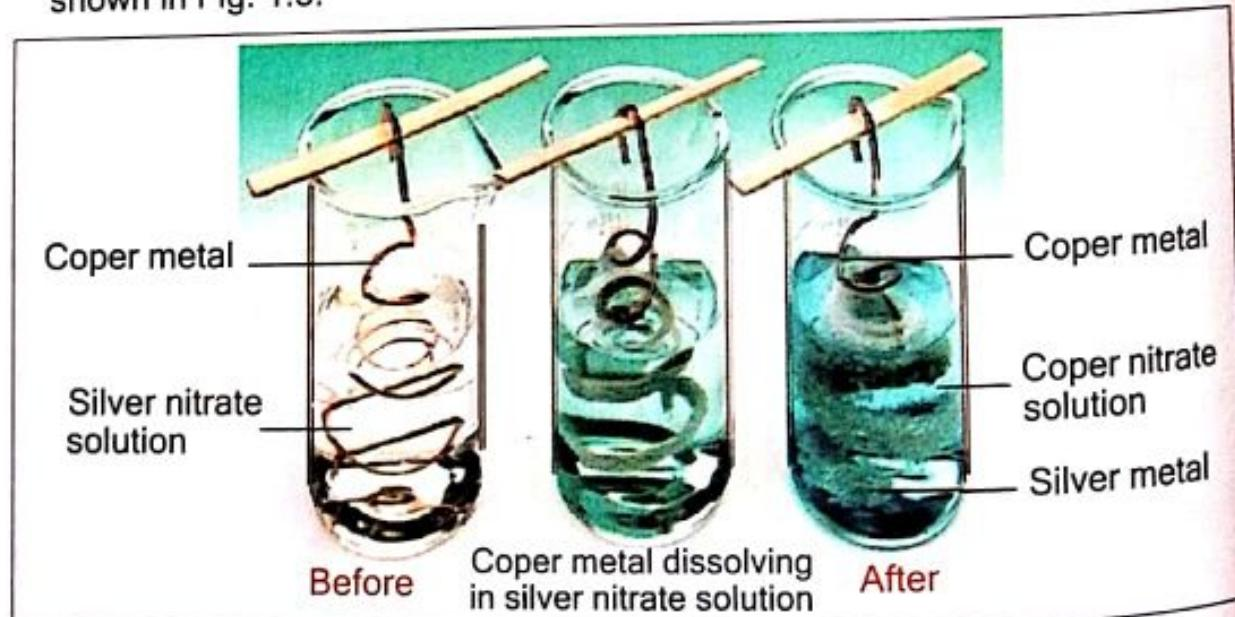

Fig. 1.5. Reaction between copper metal and silver nitrate solution
- Place the strip of copper into a beaker containing silver nitrate solution as shown in Fig. 1.5.